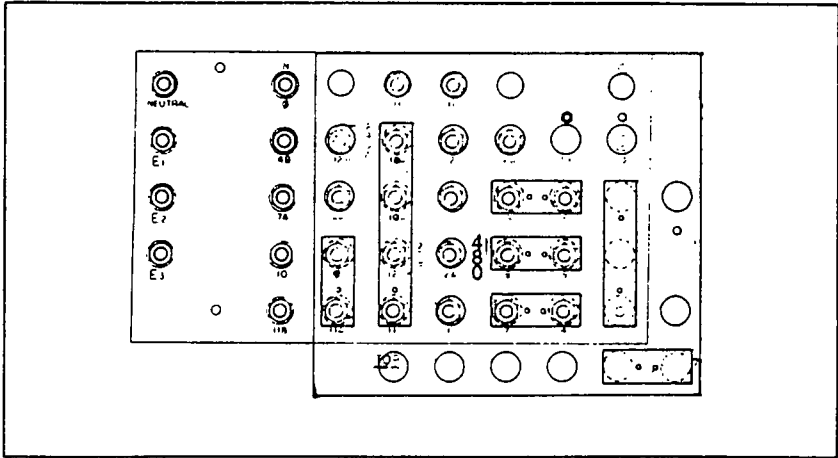

Figure 6. High Voltage Board- 277/480 Volts Selected
- Figure 6 shows the high voltage board with 277/480 volts, 3-phase selected.